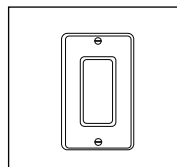

Figure 2
2. Wall switch light memory: (Figure 2)
Deep-profile use (Figure 2)